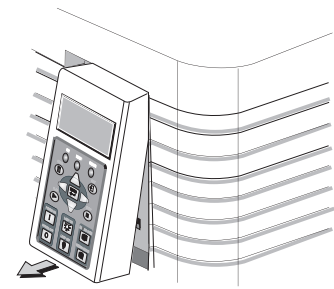

Figure 2-2 Change Display Angle of CDP
1. Place your hand under the bottom edge of the CDP and pull forward to the desired angle. Keep the back tab of the CDP fully engaged in the projector. See **Figure 2-2**.